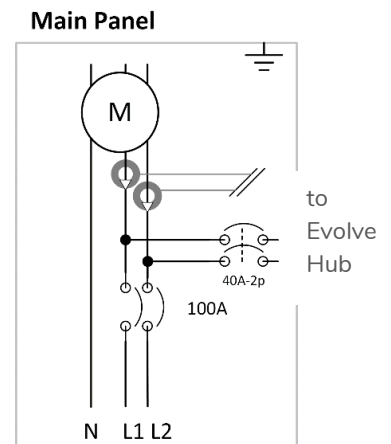

Figure 11: Main panel line side tap to Evolve Hub.
Line side tapping the main electrical panel is required for ESS installations where the electrical service rating is under 200 Amp. Refer to section 2.3, figure 11.
7. For electrical services rated less than 200A, the ESS system must be line side tapped as shown in figure 11.